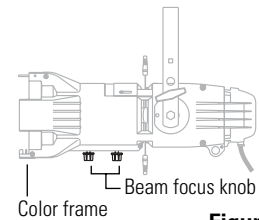

Figure 6
1. Loosen the beam focus knob(s) on the underside of the barrel. See **Figure 6**.